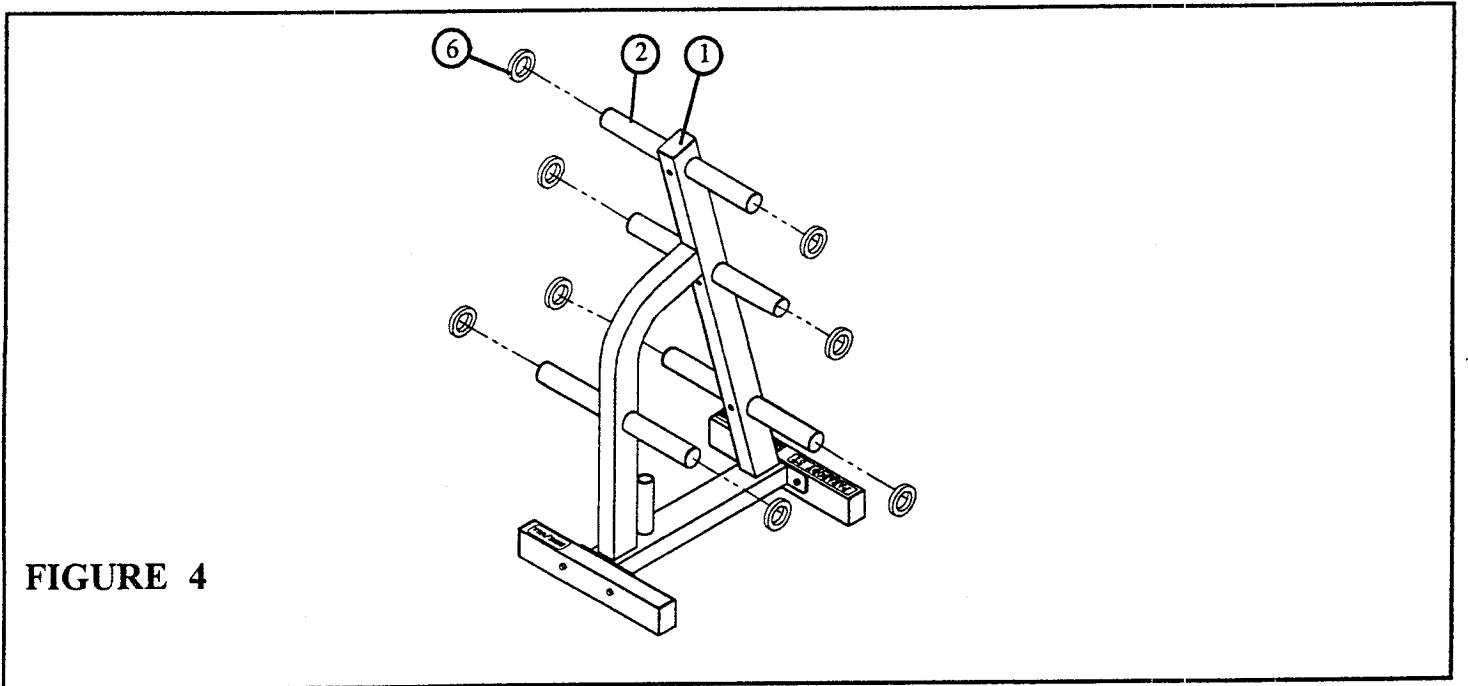

FIGURE 4
STEP 4: Slide eight RUBBER BUMPERS (6) over the ends of the 1-1/2" DIA X 19" TUBES (2) and up against the FRAME WELDMENT (1) as shown in FIGURE 4.